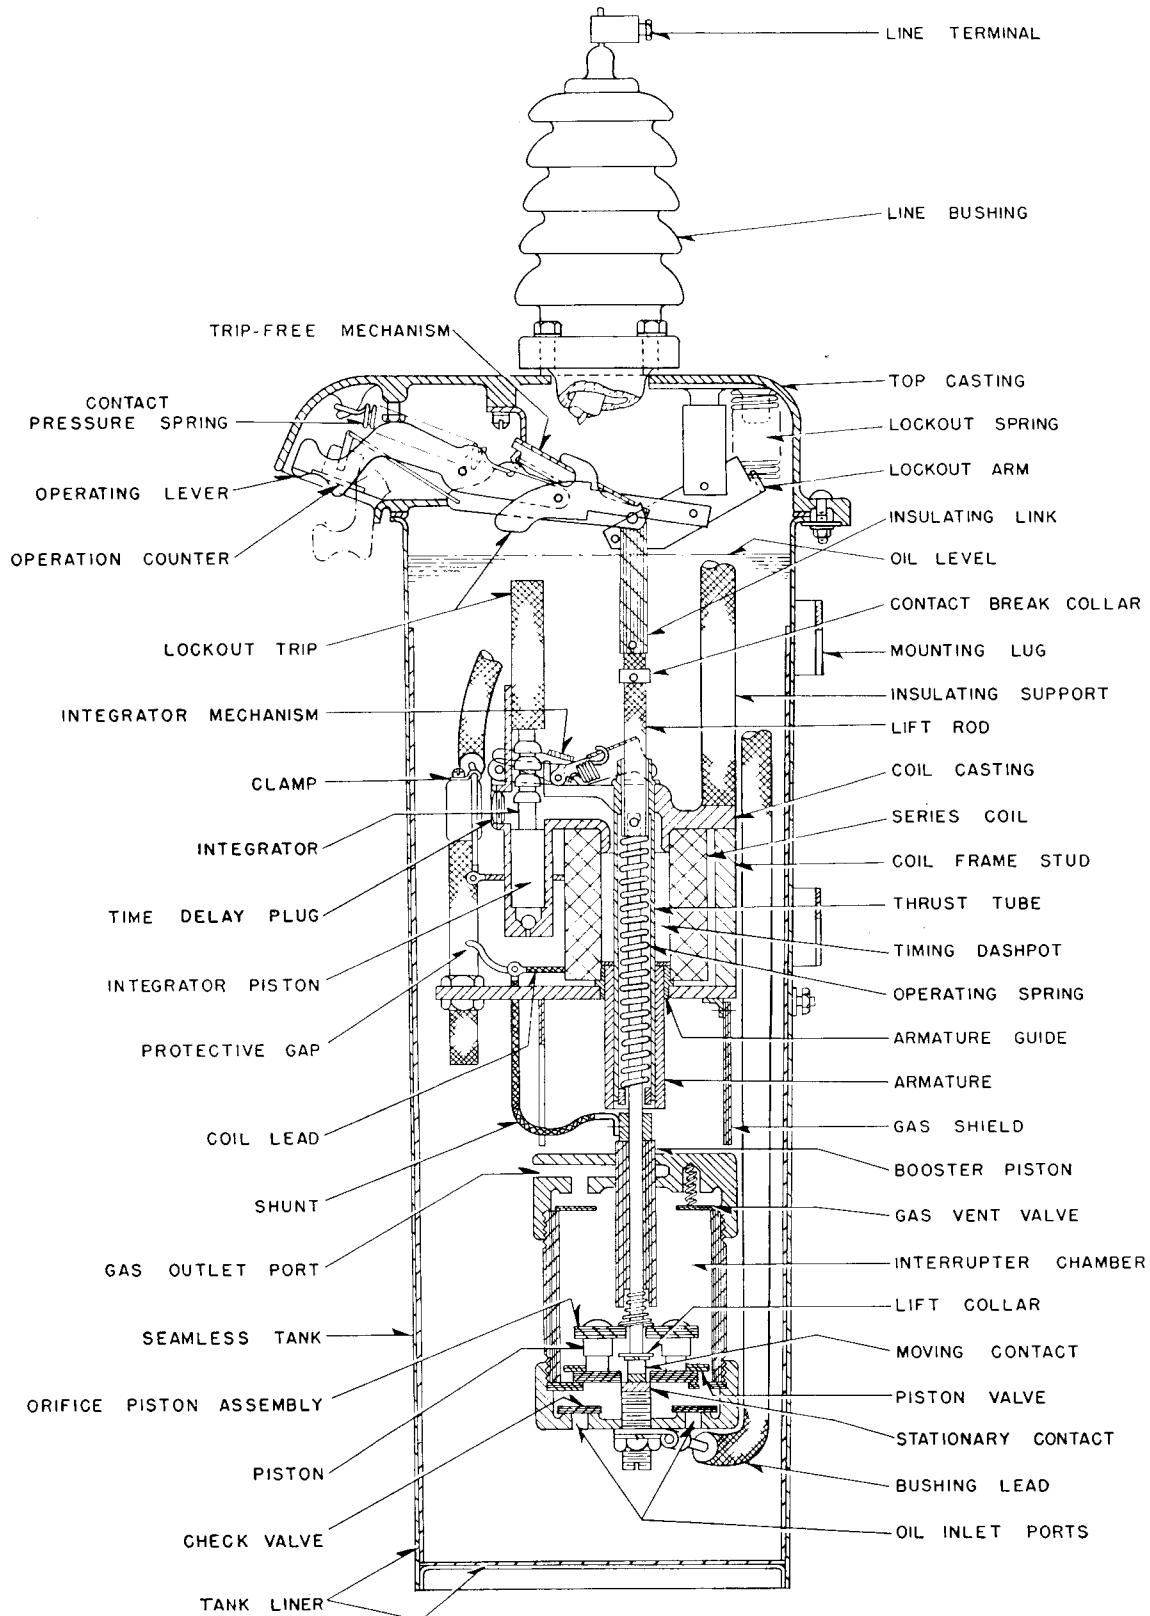

FIG. 3. Sectional View of Type 100-GR Automatic Recloser
**Mounting.** The recloser is contained in a seamless drawn steel tank on which two mounting lugs are welded. It can be mounted to the crossarm, or on the pole mounting brackets as shown in Figure 3. In either case, the recloser can be positioned in the tank so that the hood will face in any desired position. This is accomplished by merely loosening the clamping bolts, rotating to the desired position, and retightening the bolts.